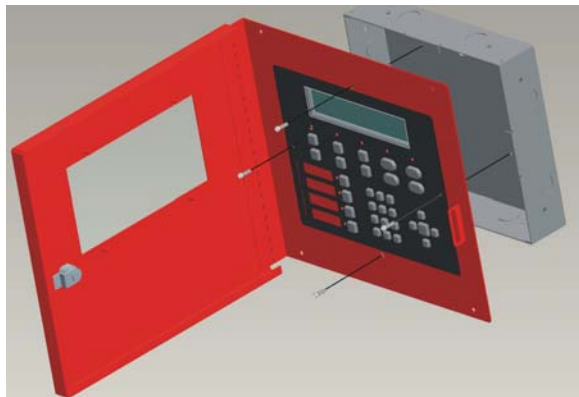

Figure 4: Attaching Door Assembly to Backbox
4. Attach the annunciator/door assembly to backbox as shown in Figure 4 using the supplied
backbox using screws provided (see Figure 4).